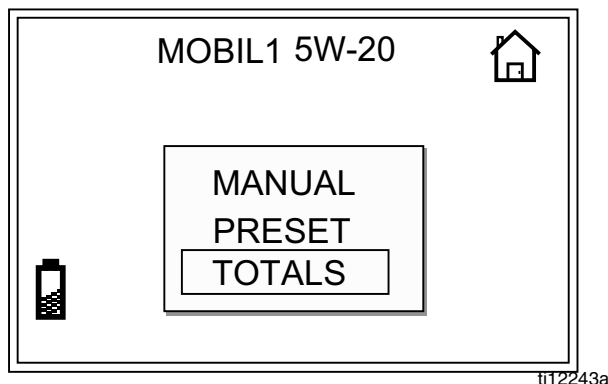

FIG. 27
1. From HOME screen, use the UP or DOWN ARROWS to select TOTALS (FIG. 27).